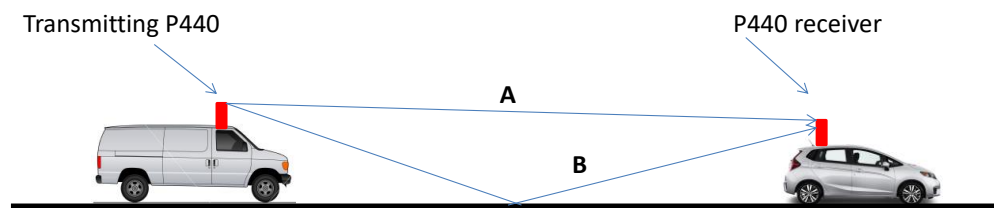
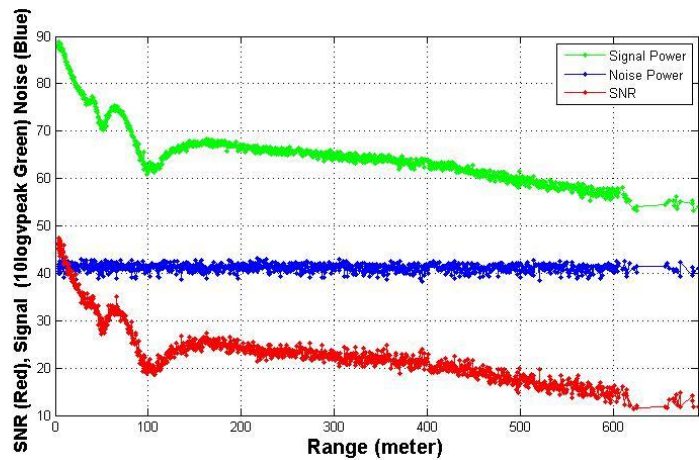

Fig. 6-2: Transmitted signal A arrives at the P440 receiver and is destructively interfered by signal B
Fig. 6-3: Data collected from configuration shown in Figure 6-2
- **Variations due to compression.** When units are operating “too” closely to each other, the strength of the transmitting unit will be so great that receivers of other units will compress. When a receiver compresses, the bias of the reported range measurements will change by as much as a few centimeters. Region 1 (FCC) units are affected when they are within 2 meters of each other, Region 2 (EU) units are affected at ranges up to 5 meters, and High Power units will be affected out to 25 meters. In these cases, the ranges reported will tend to overstate the distance by a few millimeters and increase to several centimeters as the separation distance decreases. This can be dealt with in two ways. First, a P440 will measure the signal strength of the received signal and will report when it is close to operating in compression and thereby warn the user. Second, the changes due to compression are repeatable and can be characterized. TDSR is in the middle of a characterization process and expects to include an automatic compensation in a future release.
- **Variations due to Fresnel cancellation effects.** Fresnel cancellation occurs when the direct path signal is partially cancelled by a reflection from the ground. **Figure 6-2** illustrates this issue.
In this example, the transmitted signal B arrives at the P440 receiver $\frac{1}{2}$ wavelength after signal A arrives. As a result, signal A will experience destructive interference by signal B. The received signal will not only have a lower SNR but it will also change the characteristic shape of the received signal. This unexpected change will increase the standard deviation and change the bias. These changes have been quantified. The data shown in **Figure 2-4** was collected using the configuration shown in **Figure 6-2**. (For convenience, **Figure 2-4** is repeated below as **Figure 6-3**.) You will notice that there are two points in **Figure 6-3** at which the Fresnel cancellation is apparent, 60 and 100 meters. At these locations, the standard deviation (precision) increased to 1.5 and 3.0 cm and the bias decreased by 1.5 and 3.5 cm, respectively.